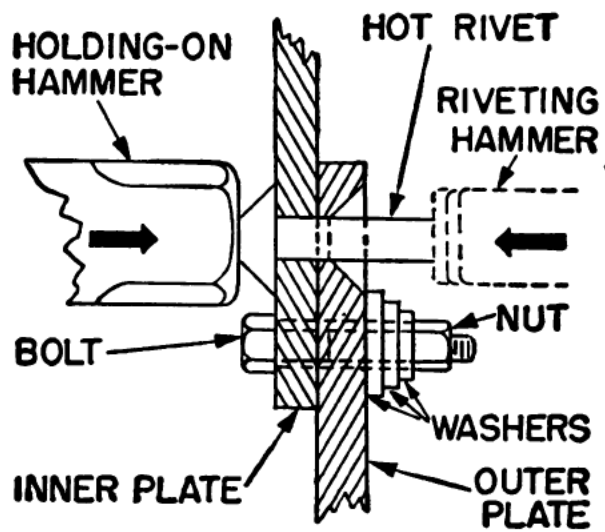

Figure 69.—Driving a rivet.
6. **FORM THE POINT** on the rivet by striking a series of blows around the edge of the rivet. Figure 69 illustrates a rivet properly set up for driving. The holding-on hammer is used for bucking the rivet. For removing rivets the cutting torch is your best tool.